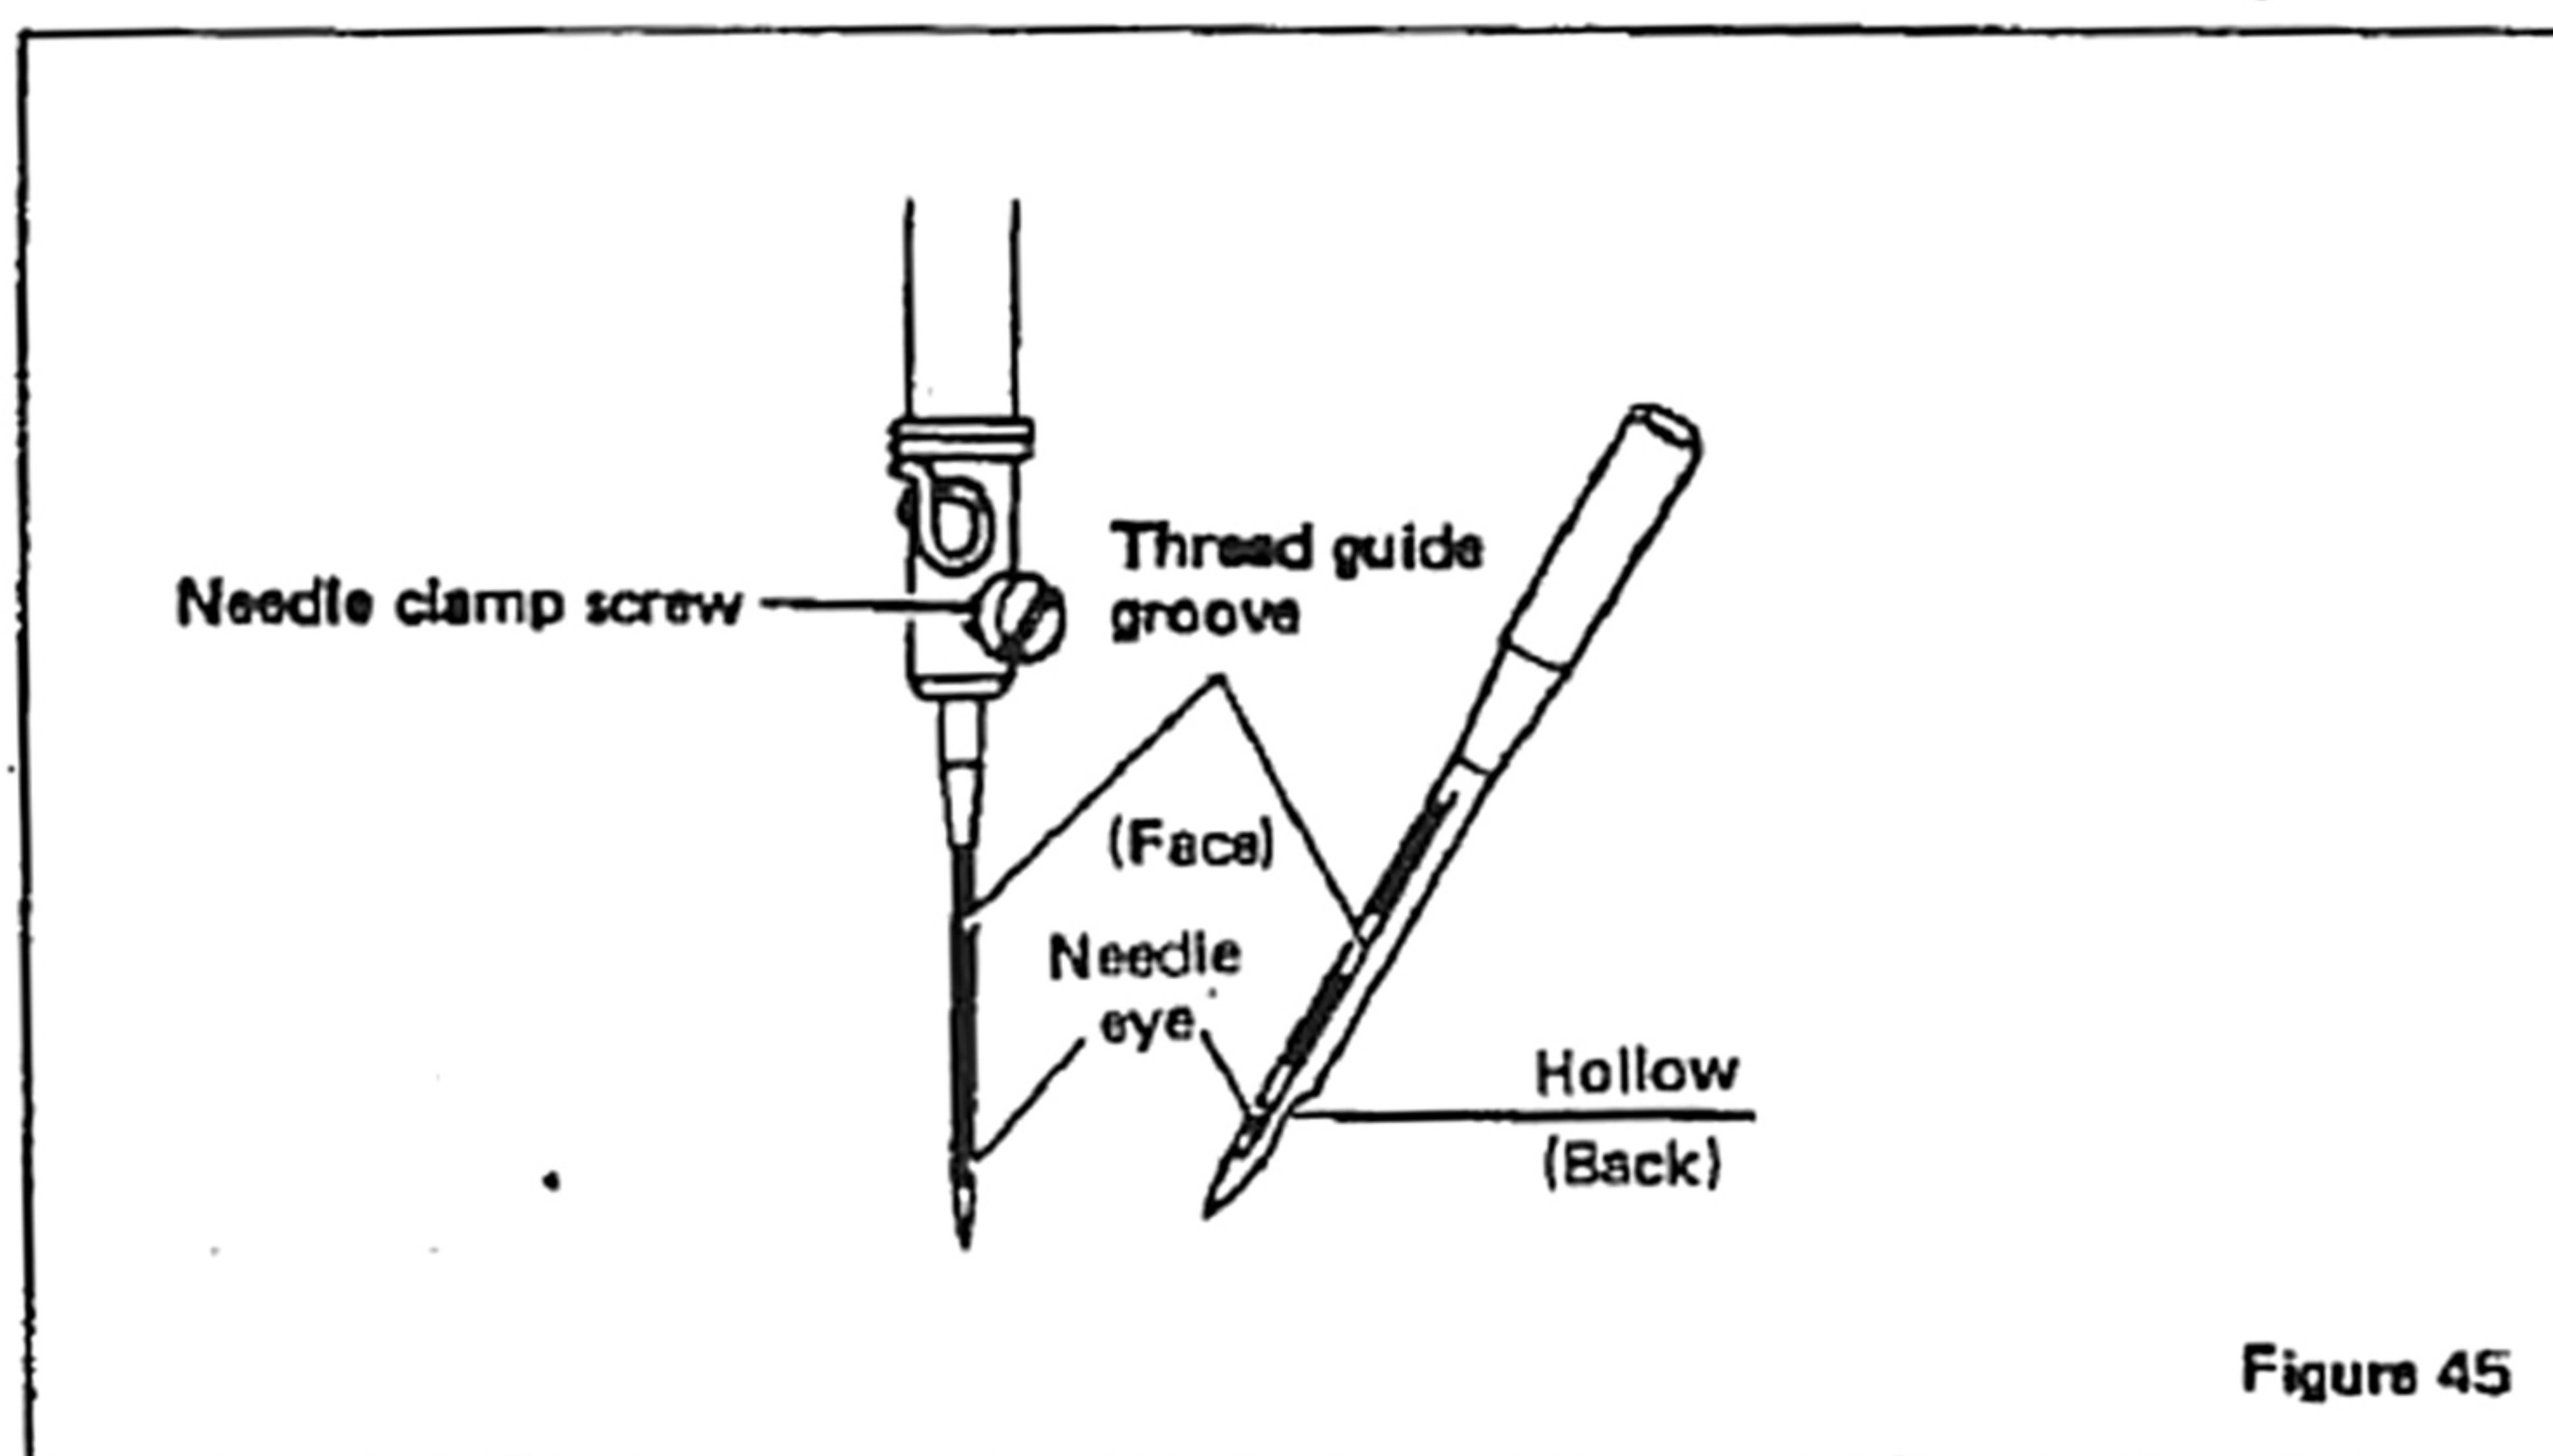

Figure 45
3. Put the point of the new needle in the hole of the needle plate, and the around end of the needle into the needle bar hole all the way to the top (Figure 45).